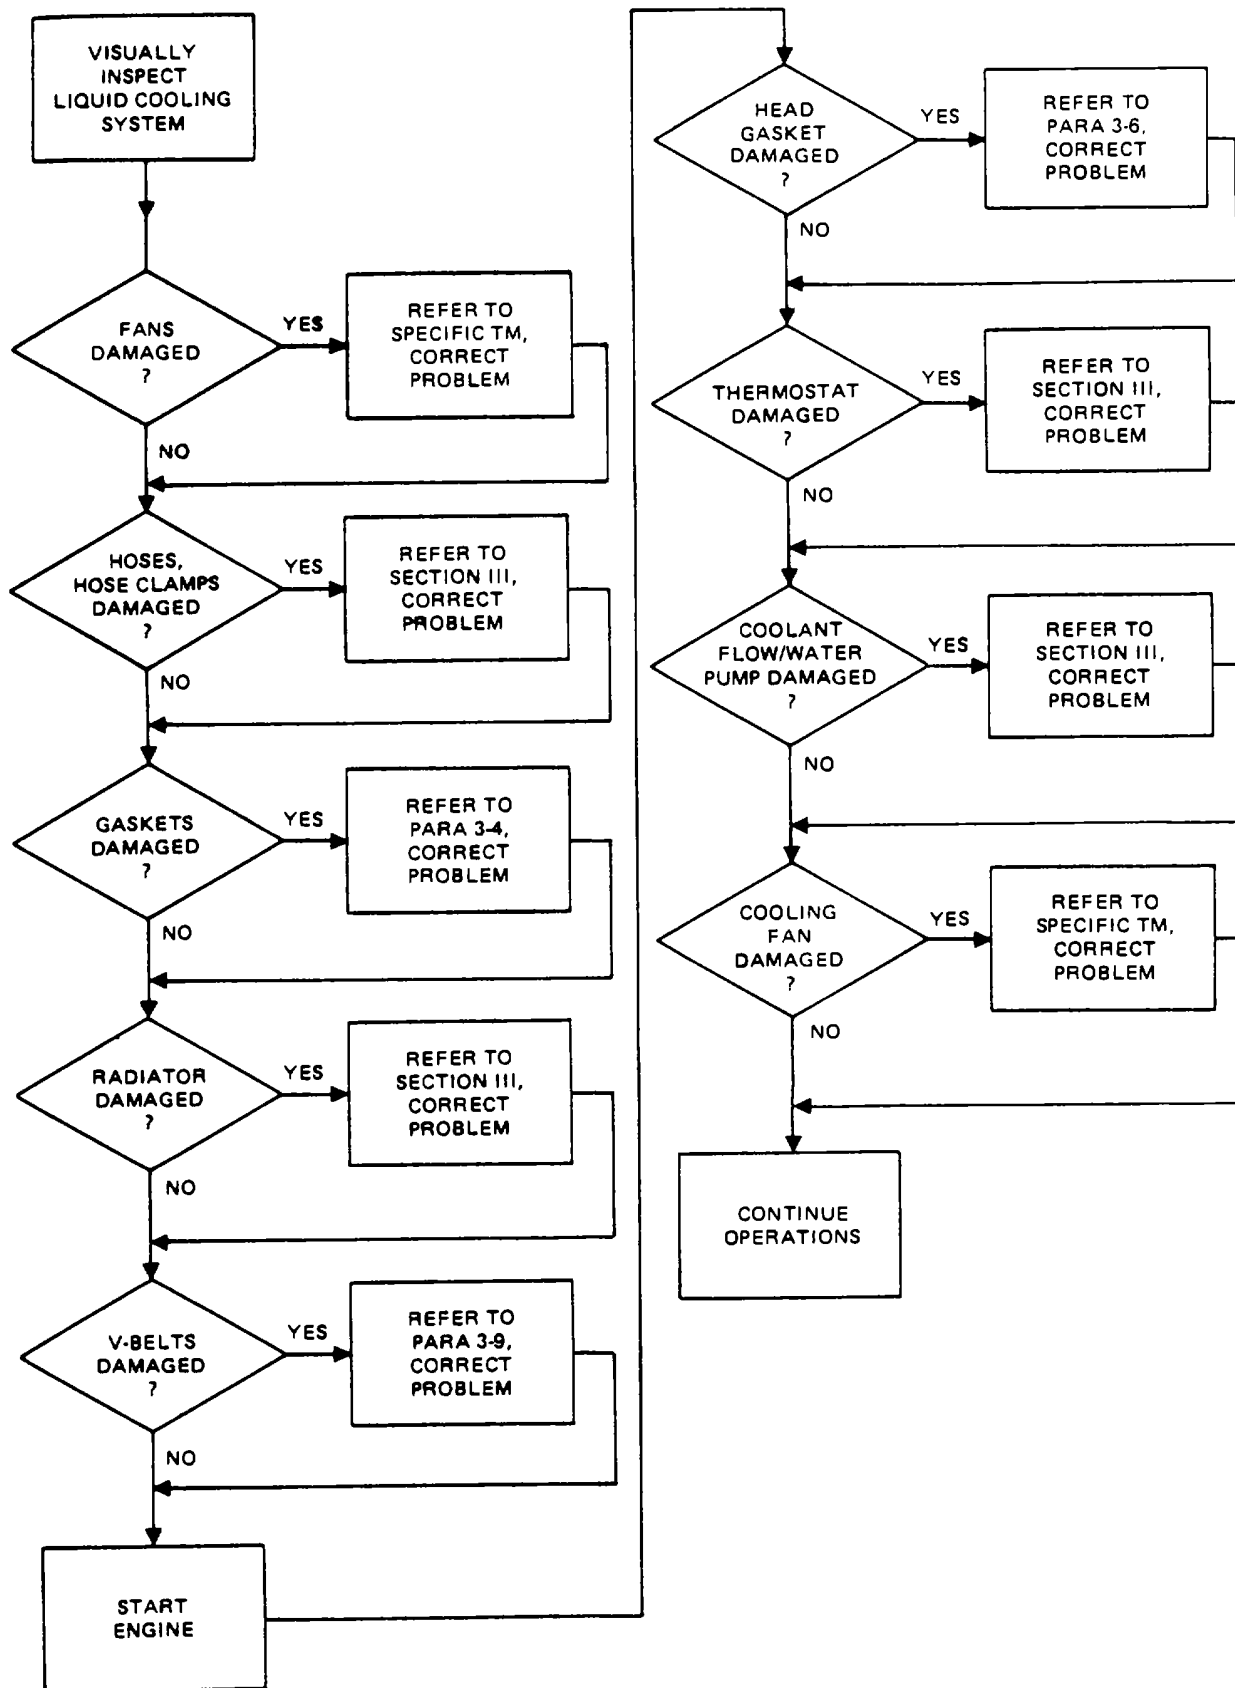

Figure 6-2. Liquid Cooling System Failure Assessment.
*b. Liquid Cooling System Assessment.* Liquid cooling system assessment procedures are structured using the logic process shown in figure 6-2.